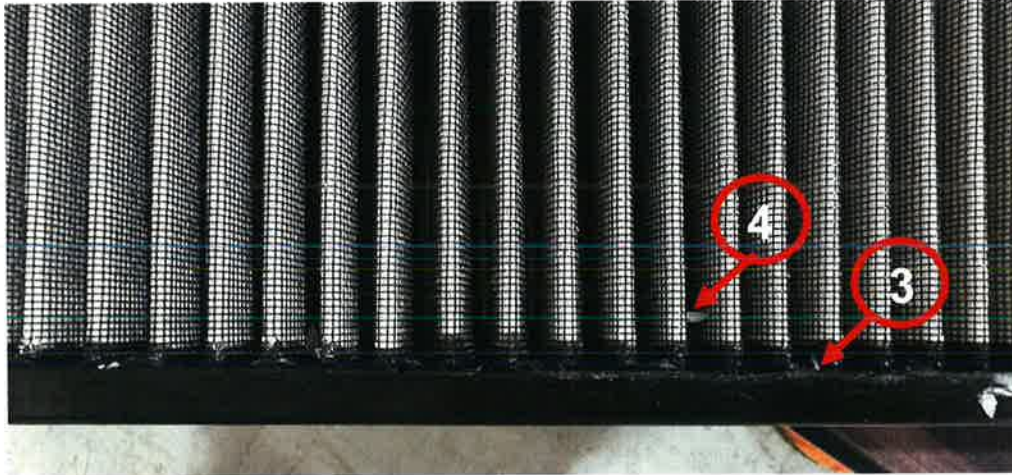

Figure 5c
NOTE: Ensure that the metal screen is completely removed and there are no sharp remnants still in the air barrier filter. (Reference Figure 5c)
4. Inspect the air barrier filter for any foreign objects or debris (FOD) such as small pieces of silicone sealant or shards of the metal screen. (Reference Figures 5c & 5d)